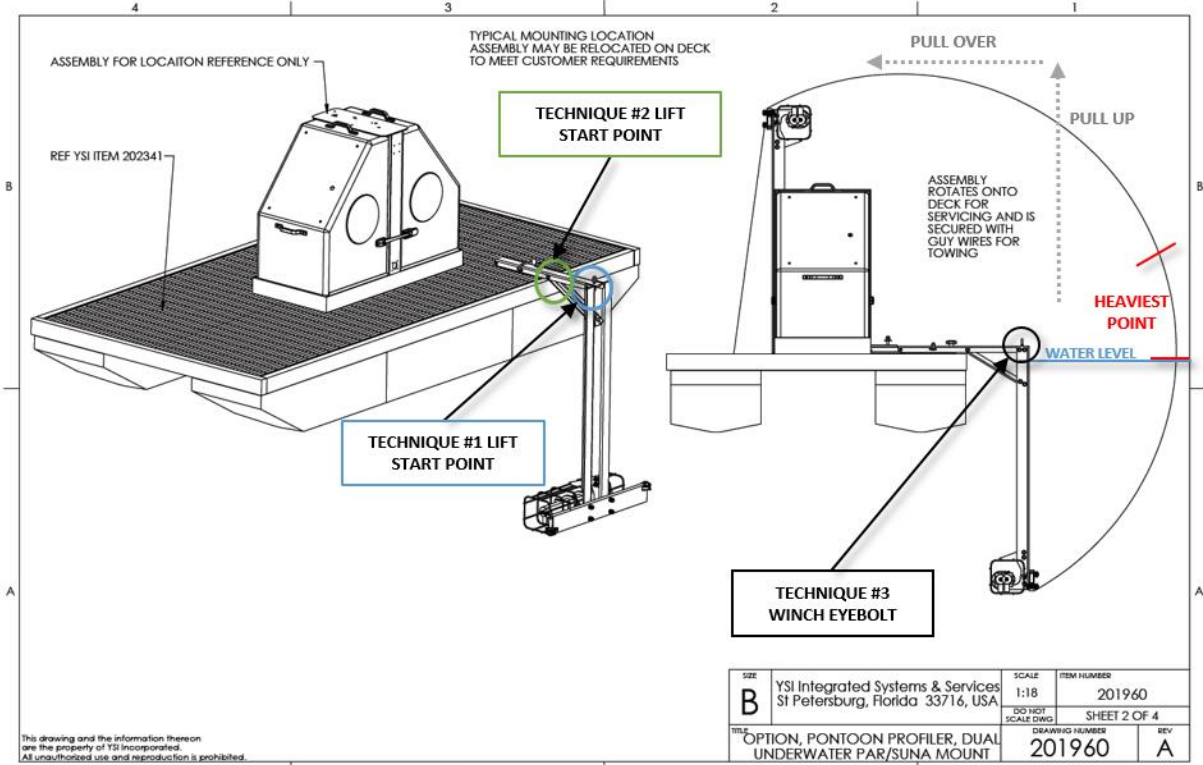

Figure 39. Dual PAR SUNA Mount Lifting Guidance
Technique #1: Squat down and grasp the metal part of the arm right where it joins to the composite arm that sticks into the water. See Figure 39 for start point reference. Apply a pulling force parallel to the composite arm –at first, pull straight up, but as the mount rises out of the water, pull more horizontal. Once the SUNA clears the water surface, have a spotter stand to the side to lend a hand when the mount becomes its heaviest. **It is important, especially once the sensors are out of the water, to sink down and use your legs; making sure you engage core/leg muscles, instead of your back/arm muscles is key.** (Source: Torey Ploeger)
Technique #2: Straddle the metal arm (feet close to the edge of the buoy) and grab the bracket with both hands to lift the mount up. See Figure 39 for start point reference. Lean back using your weight to lift the mount above water. As the SUNA breaches the water, the mount reaches its heaviest weight. It gradually becomes lighter the higher the mount lifts. (Source: Geoff Simonds)
14. Slowly lower the mount towards the water with the help of a spotter. **As soon as the mount hits the water, it significantly reduces in weight and requires a lot less effort to lower.** However, before reaching that point, the mount reaches its heaviest point, which may feel like it is going to pull you into the water. The mount, at its heaviest, is not far from the water (it should not be too far above the water, see Figure 39 above), so it is OK to let go of the mount if you feel you are losing control or if it is actually pulling you overboard.